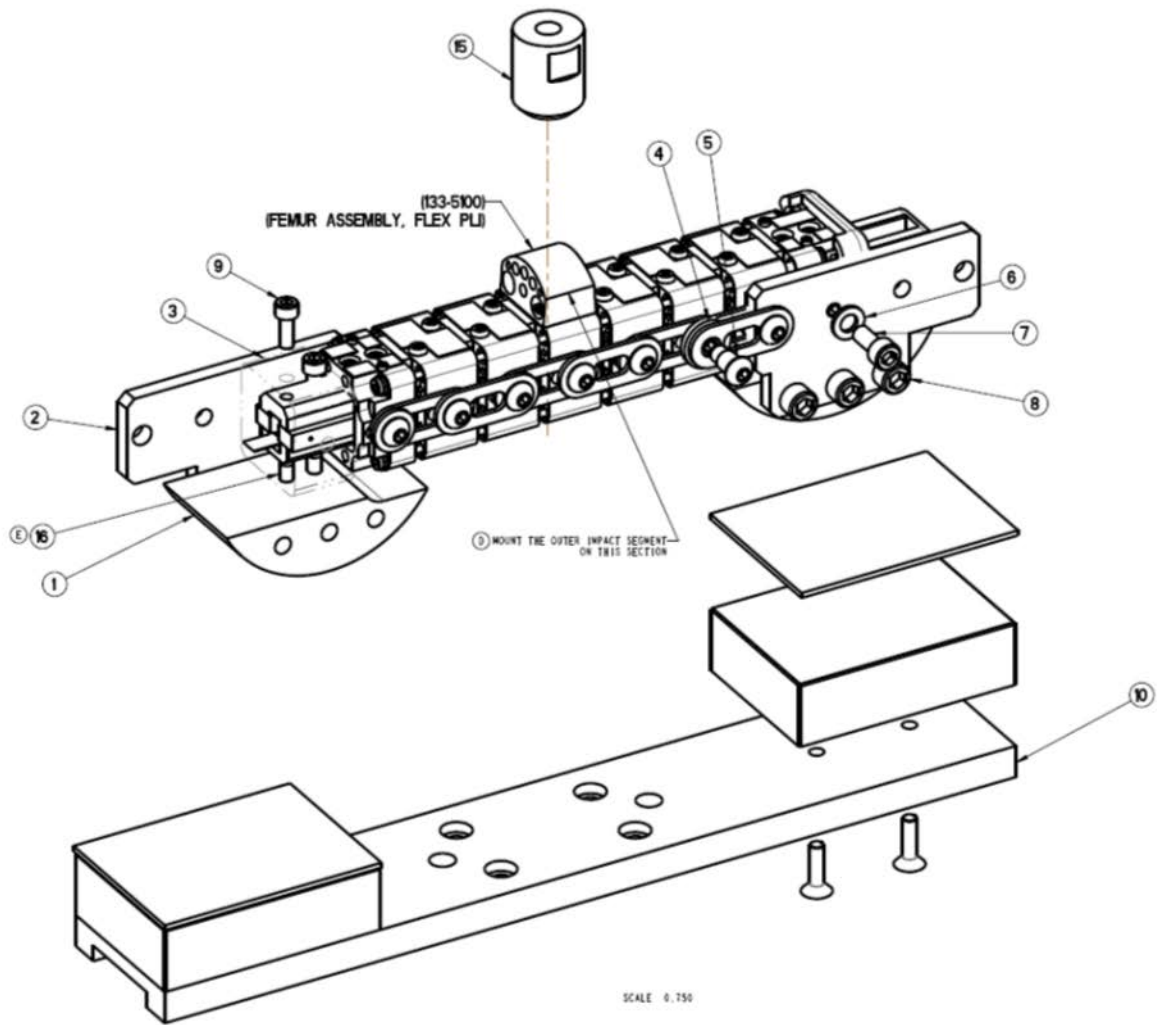
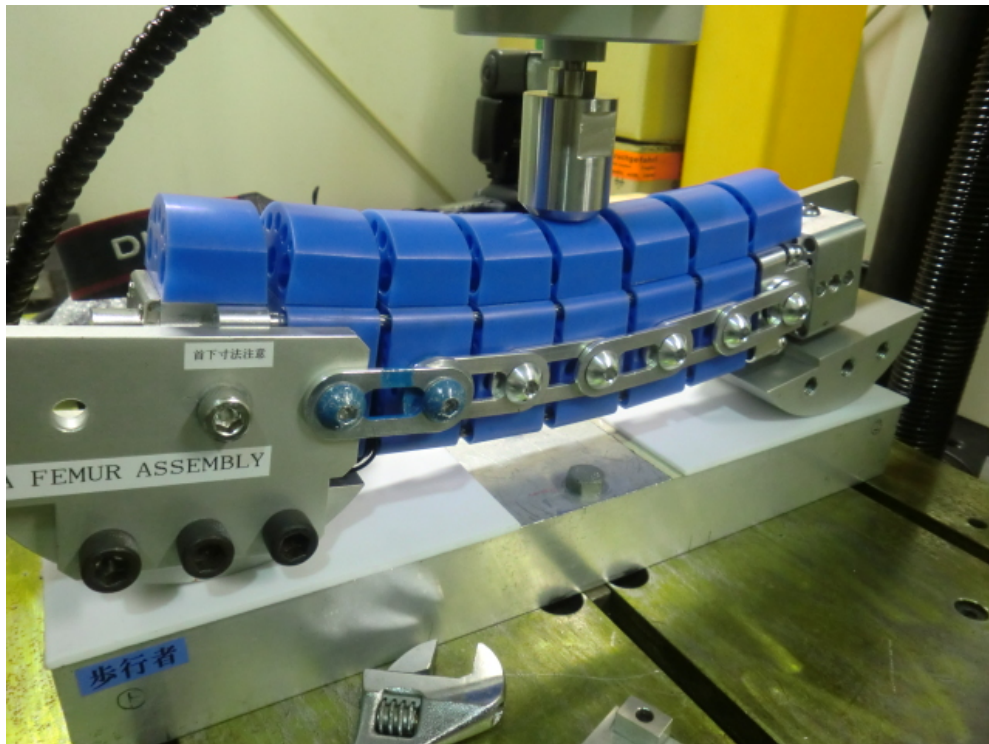

Figure 78 . Bone and knee fixture 133-8120 for static assembly bending test femur shown
Figure 80 . Bone Assembly Fixture (femur shown under bending)
Assemble the bone to the 133-8120 fixture; see drawing Figure 78 for details. Place the assembled fixture over the Teflon sheets see Figure 80. Do not tighten the two cap head screws item 7 in Figure 78 at the end segments of the assembly to allow free rotation.